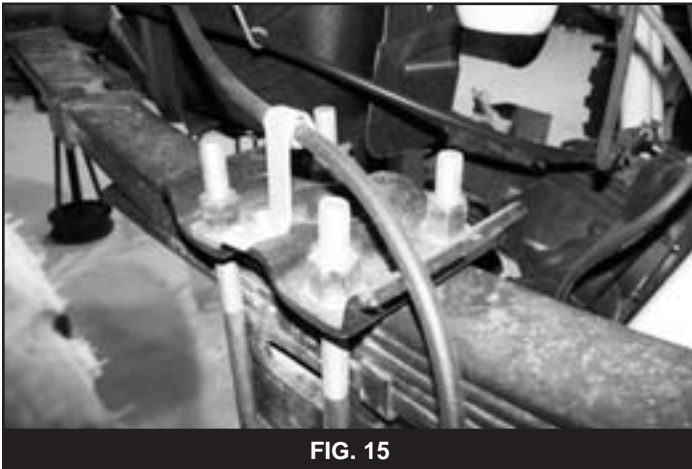

FIG. 15
74. Repeat the procedure on the driver's side. Disconnect the parking brake cable bracket from the spring plate and retain hardware (Fig 15). Take care not to over extend the brake lines.